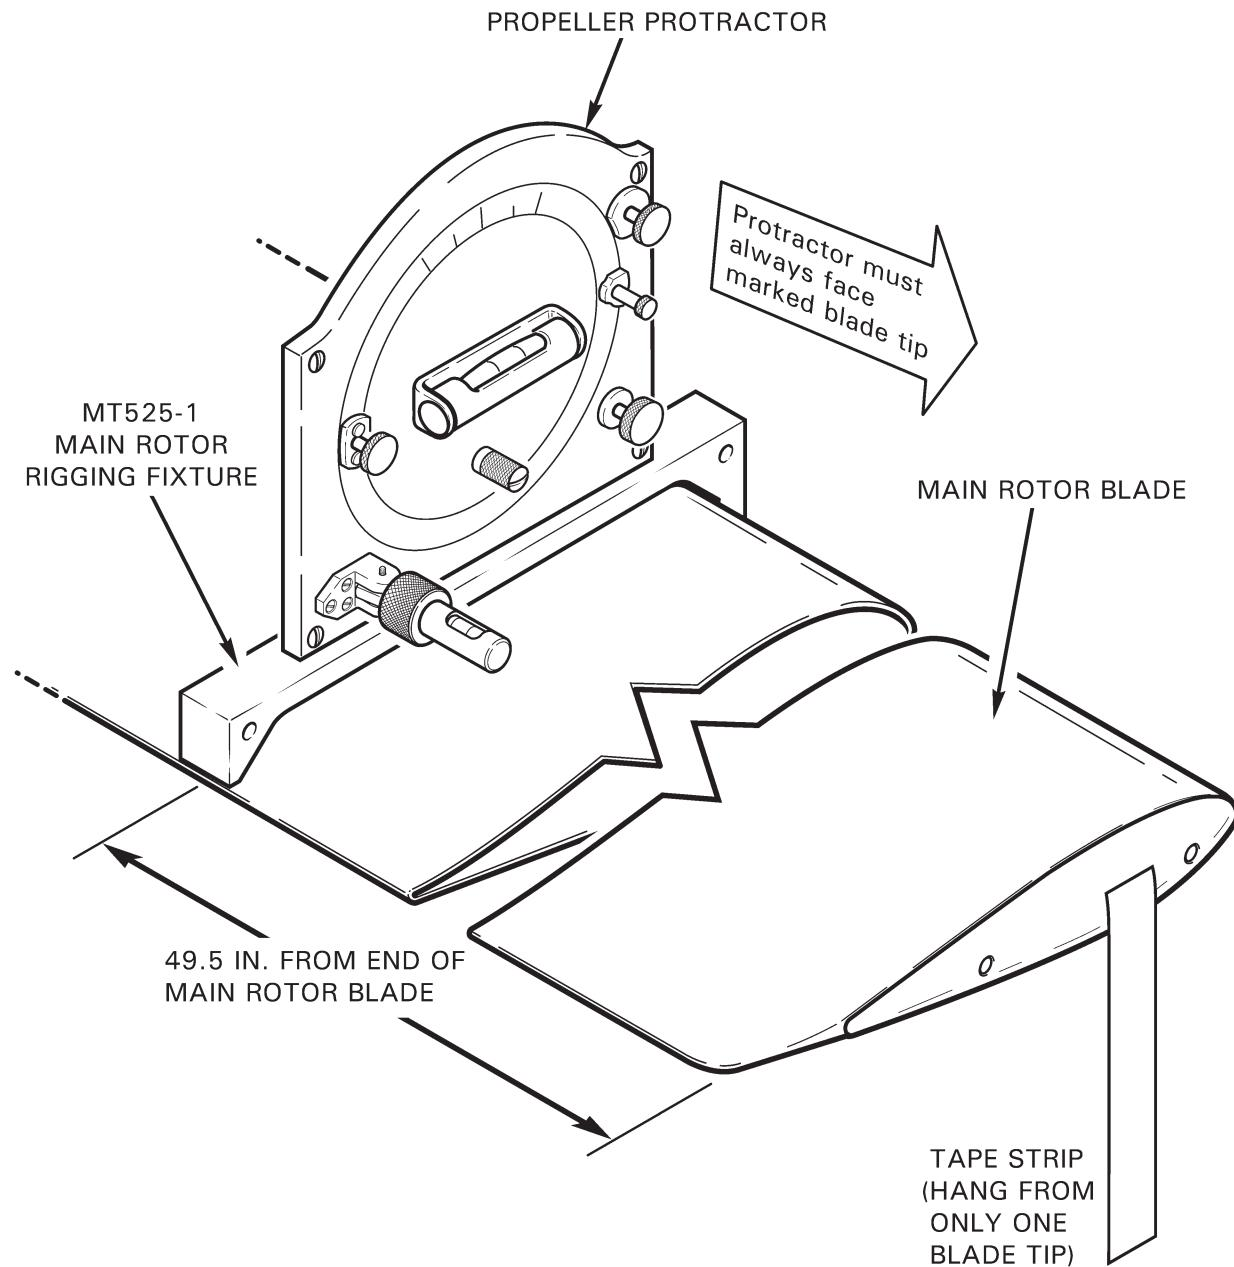

FIGURE 18-10 MAIN ROTOR BLADE RIGGING
2. Refer to Figure 18-10. Using felt tip marker, mark upper surface of both main rotor blades 49.5 inches inboard of seam between blade tip and tip cover. Lay 1-inch wide length of masking tape chordwise on each blade, centered over marking. Mark each rotor blade with a different color designation, such as red and blue.